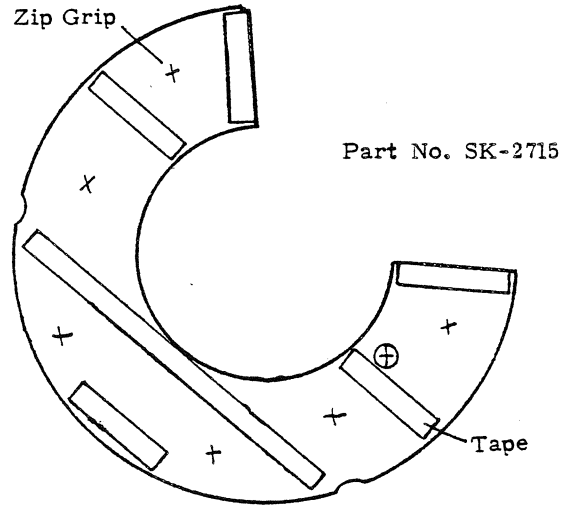

Figure 3-20. REPLACING FLUX SHIELD
- b) Apply new "paper thin" double sided tape (915-3M Co.) on the areas shown below (Figure 3-20.)
- c) Apply commercial "Zip Grip 10" cement at points marked (X).